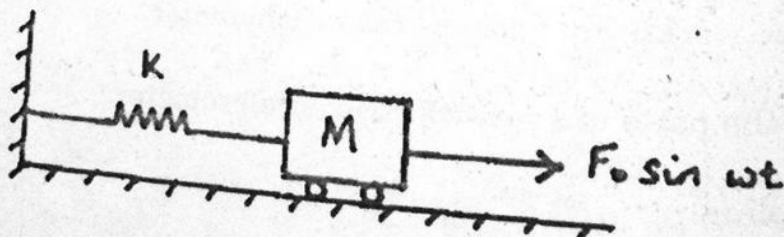

Fig. 2
- (b) (i) Refer Fig. 2. The mass  $M$  is subject to a periodic force as indicated. Obtain the general solution for the displacement of the mass. (10)
- (ii) With the example of the system shown in Fig. 2, discuss resonance. Sketch the frequency response curve of the system. If a viscous damping unit is now added to the system, how would it change the frequency response of the system? (6)
- (b) (i) When does resonance occur? State the effect of damping during resonance. (4)
- (ii) Derive and obtain the response of a SDOF spring – mass system subject to a single frequency sinusoidal excitation. (12)
- (a) (i) Briefly explain the working principle of a vibrometer. (4)
- (ii) Refer Fig.2 where the given mass ( $m = 2 \text{ kg}$ ) is suspended in a box by a vertical spring whose spring constant  $k = 40 \text{ N/cm}$ . The box is placed on top of a shake table for which the motion due to vibration is given by  $x = 0.03 \sin(3t)$  where  $t$  is in seconds and  $x$  is in meters. Find the absolute motion of the mass. (12)